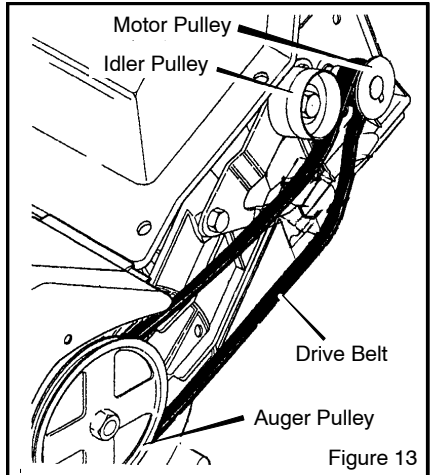

Figure 13
2. Carefully lift idler pulley to release pressure on belt (see Figure 13).